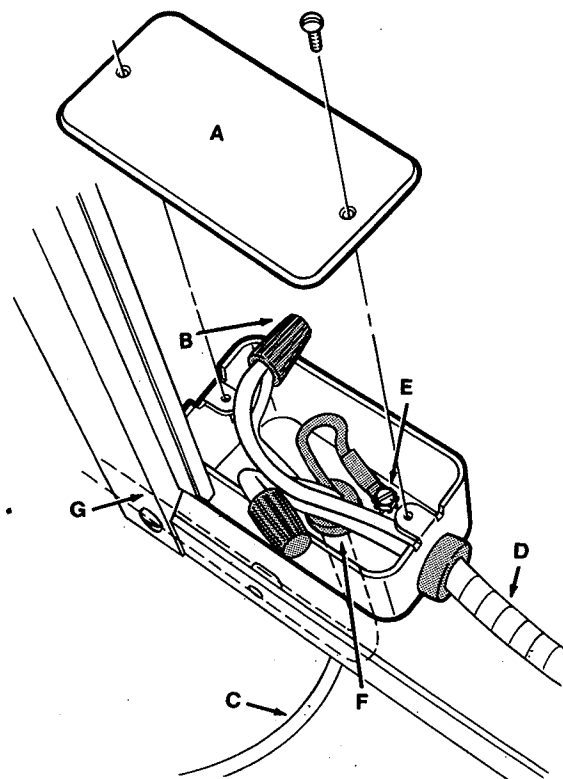

Figure 5. Counter Model Junction Box
A. Counter Model. (Fig. 5)
2. Remove cover plate (A) from junction box on freezer base.
3. Remove wire nuts (B) from power cord (C) and wire harness (D).
4. Unscrew ground wire from green grounding screw (E).
5. Remove strain relief bushing (F), holding power cord. Then remove power cord from the 7/8 inch (2.22 cm) hole.
6. Install permanent wiring (G) through the 7/8 inch (2.22 cm) hole in the bottom of the junction box.
7. Connect permanent wiring (G) to the wire harness (D) using wire nuts (B) removed in step 3.
8. Connect ground wire to green grounding screw (E).
9. Replace cover plate (A).